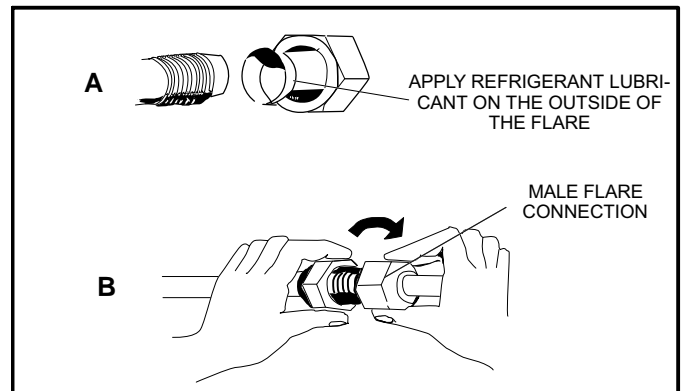

Figure 6. Making Connections at Indoor Unit (Male to Female Connection)
- 5 - Apply recommended HFC-410A refrigerant lubricant to the outside of the field-provided flared line sets (figure 6 -- A).
- 6 - Align the union tube and flared refrigerant lines with each other, then tighten the flare nuts lightly at first to obtain a smooth match (figure 6 -- B).